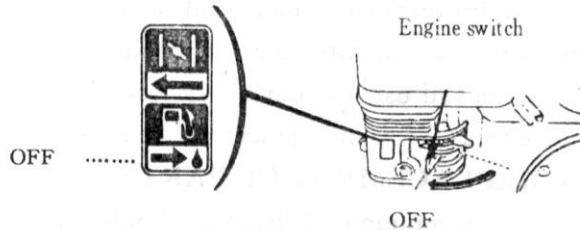

Fig. 21
3. Set the fuel switch to “OFF” (Fig. 21).